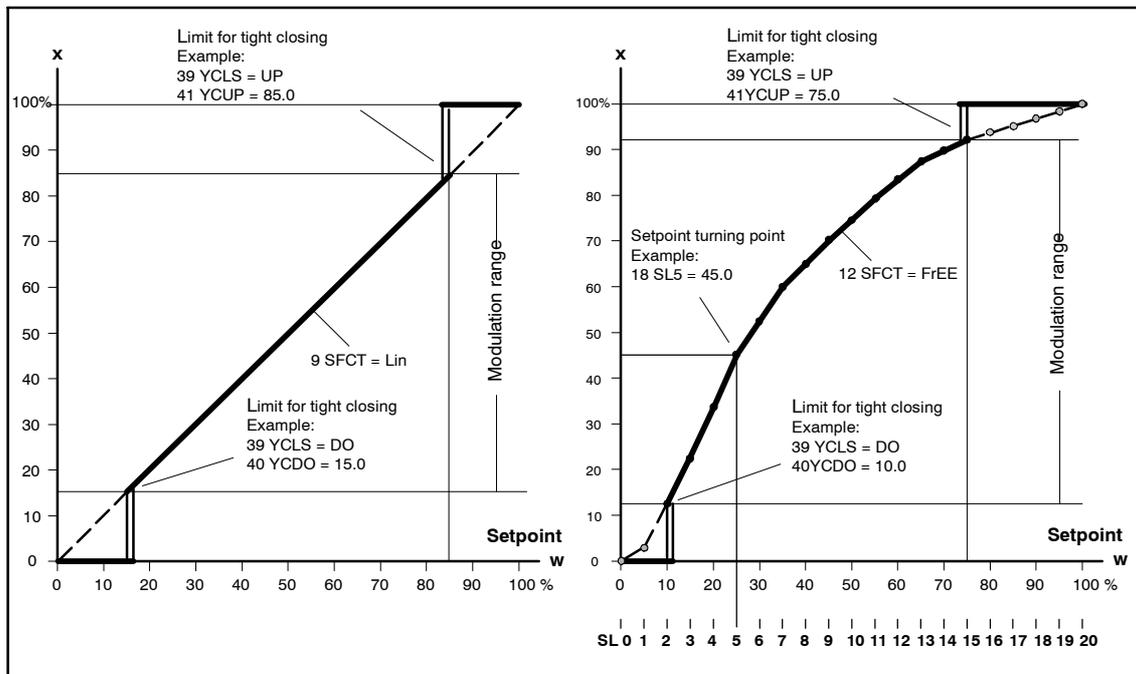

Figure 4-9 Setpoint characteristic, manipulated variable standardization and tight closing function
**12.SFCT** Setpoint function (see figure 4-9, page 94)
- 35.YA** Manipulated variable limiting start (see figure 4-9 and 4-10)
- 36.YE** Manipulated variable limiting end (see figure 4-9 and 4-10)
- 37.YNRM** Manipulated variable standardization (see figure 4-9 and 4-10)
Tight closing with manipulated variable (see figure 4-9, page 94)